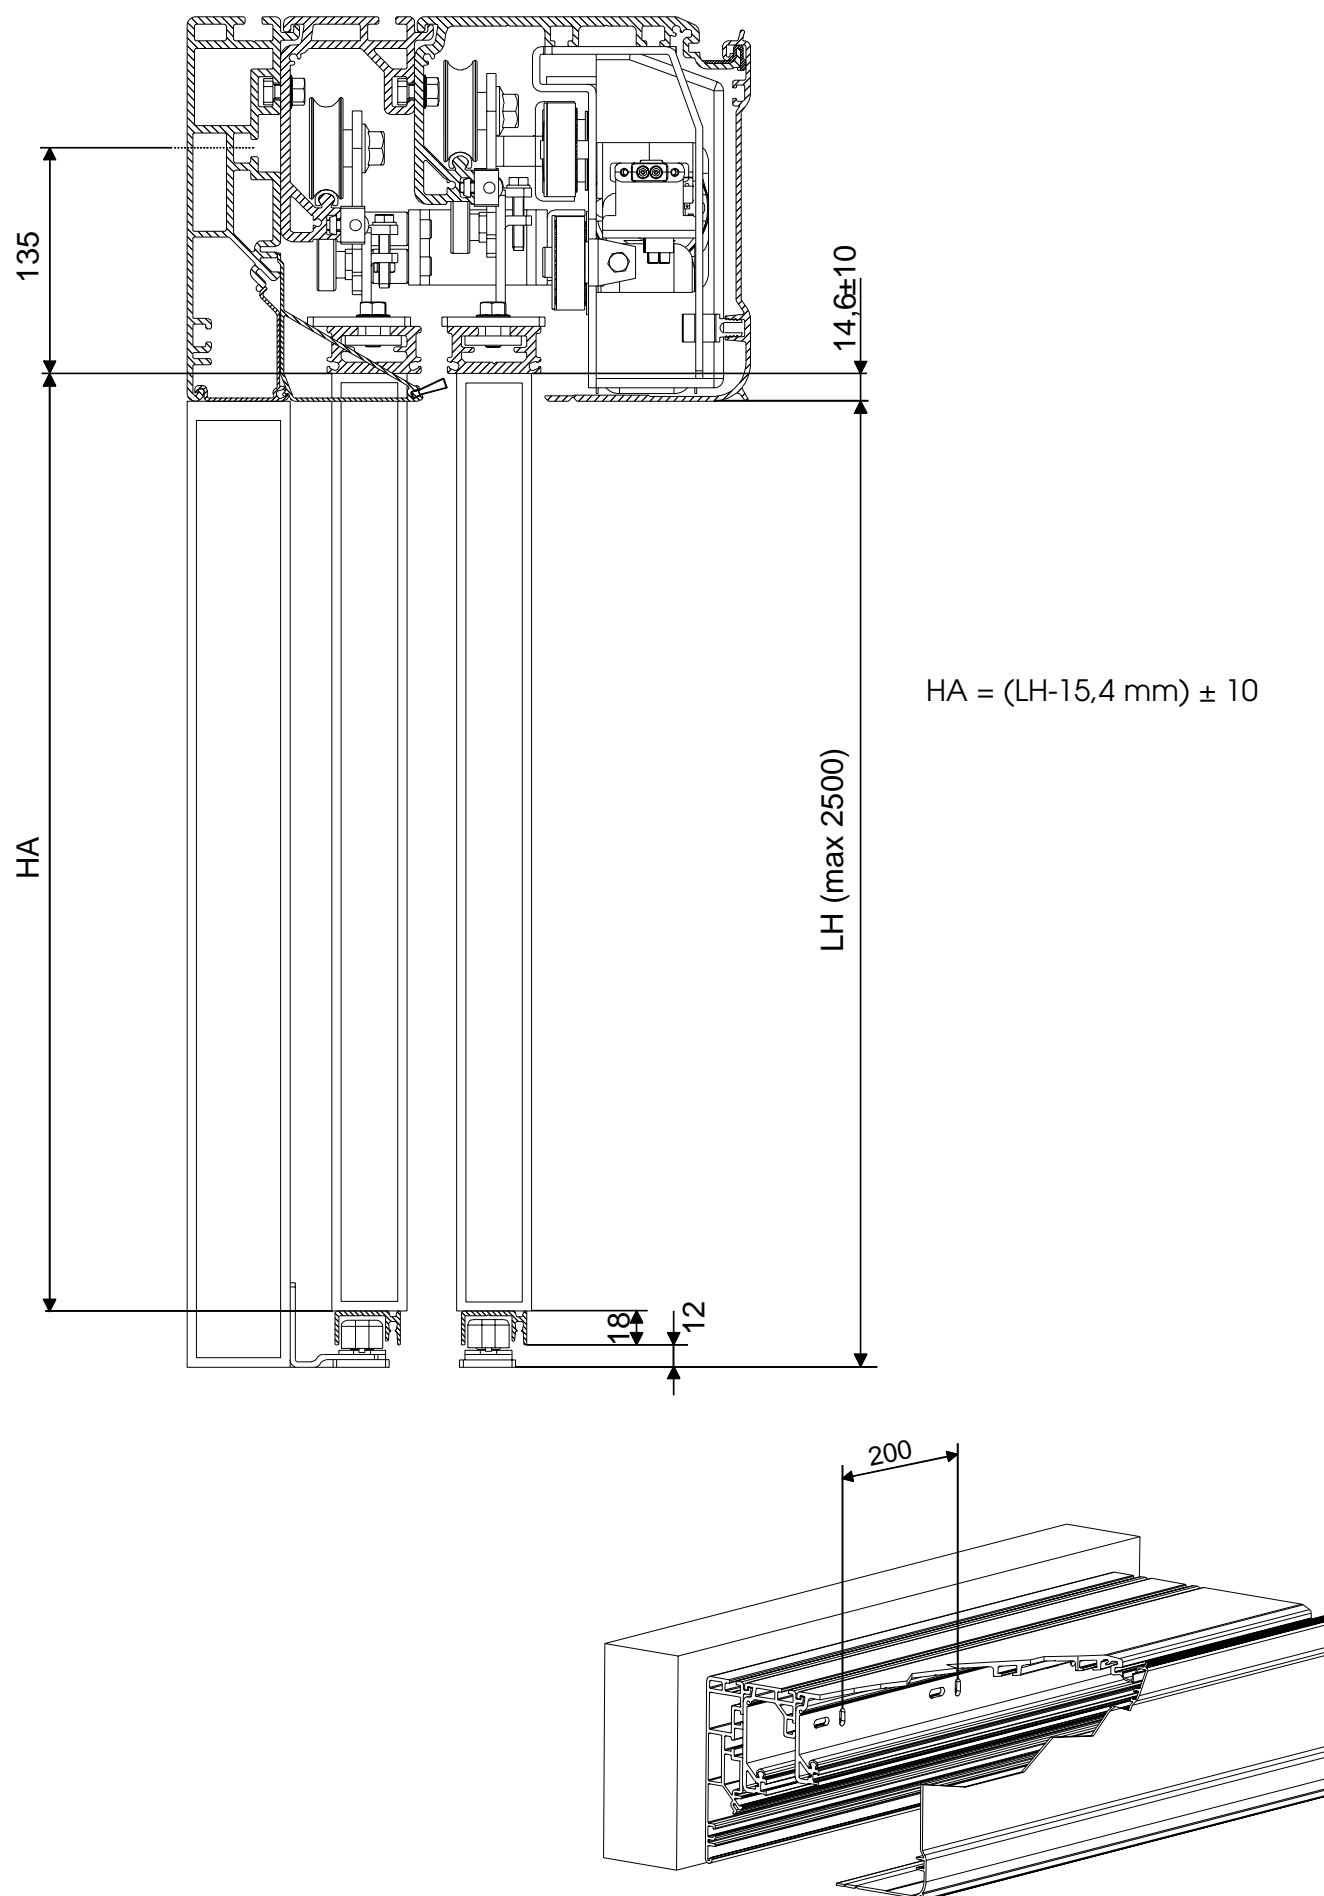

Fig. 8
•Establish the exact location of the free-standing profile considering the overall dimensions of fig. 8. The head profile must be secured parallel to the floor.
Secure at the centre, firmly lifting the head profile to align the three securing points. Carry out the remaining securing operations, every 20 cm on the vertical slots as shown in figure 8.